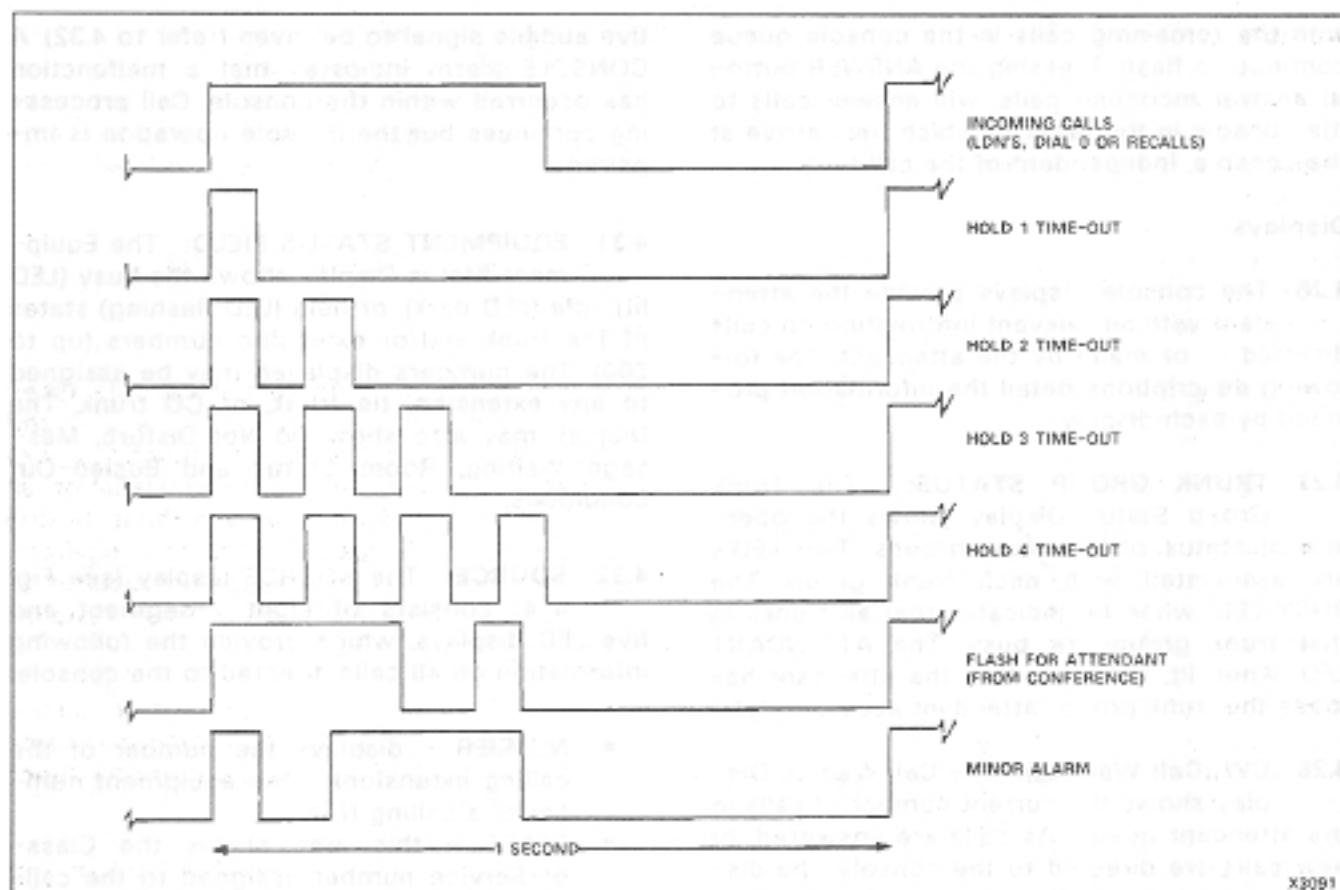

Fig. 4-6 Audible Tone Signal Cadences
4.35 For use by a visually impaired attendant, all events requiring attendant recognition are placed in a queue and give an audible signal on a first-in, first-out basis. In the case of the first situation (LDN's, DIAL 0 or RECALL), the same audible signal is given indicating that the call can be answered with the ANSWER button. To find the actual button, the visually impaired operator can poll the keyboard (refer to 4.36). The remaining events have distinctive audible signals and may be readily associated with the relevant button. Fig. 4-6 illustrates these tone cadences, each of which has a period of one second.